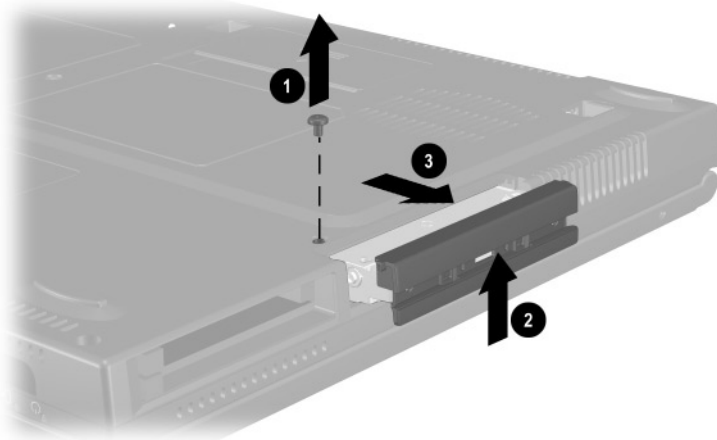

Figure 5-4. Removing the Hard Drive
- b. Remove the PM2.5 × 2.5 hard drive retention screw ❶ (Figure 5-4).
- c. Separate the hard drive bezel ❷.
- d. Use the bezel to slide the hard drive forward ❸ to unseat the hard drive connector from the system board.